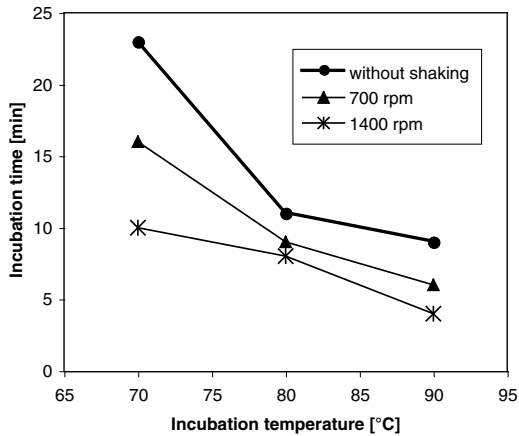

Figure 2: Removal of residual ethanol from the elution fraction by heat treatment.
- d) The incubation of the eluate at higher temperatures may be adjusted according to Figure 2. The incubation times and conditions shown will reduce an elution volume of 20 µL to about 12–14 µL and will effectively remove traces of ethanol as described above.